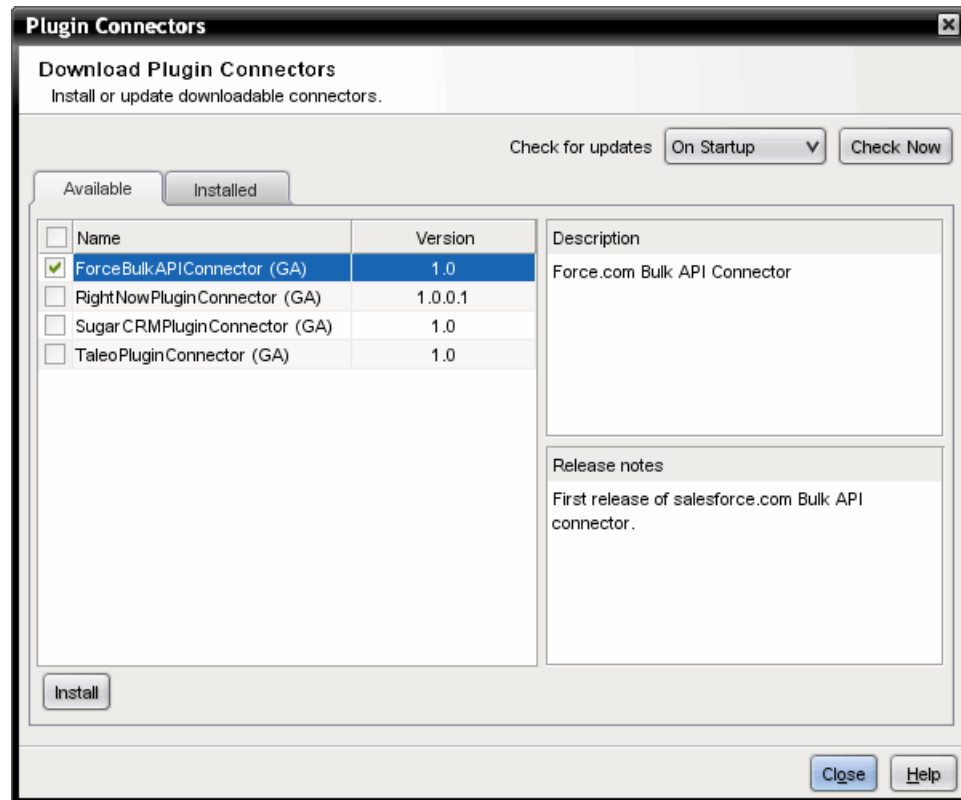

Figure 8-24 Plugin Connectors window
4. Launch the Plugin Connectors window from Studio Menu by selecting **Solutions** → **Plugin Connectors**. Figure 8-24 shows the window that opens.